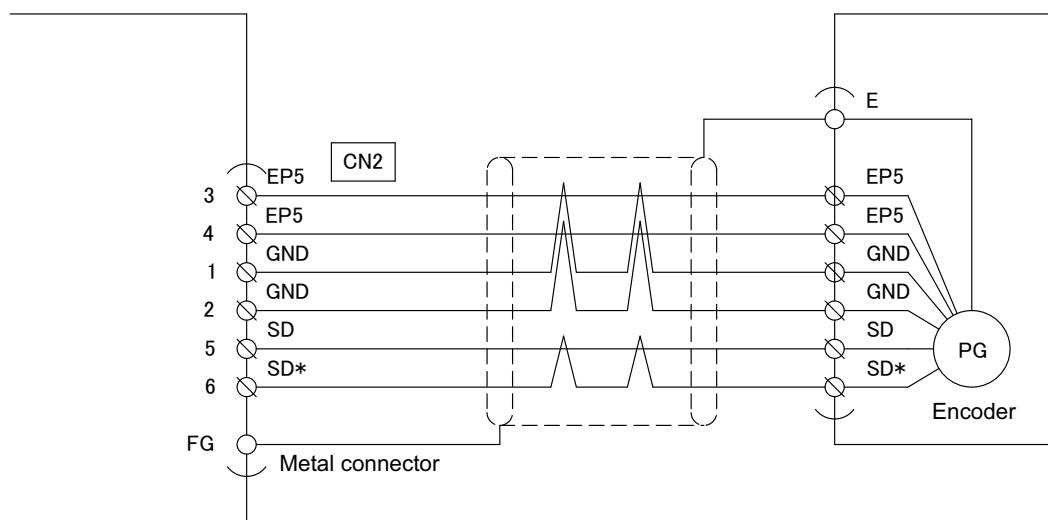

Figure 3-2 Serial encoder connecting diagram
- Note 6: When a serial encoder is used, make a connection, referring to "Figure 3-2 Serial encoder connecting diagram".